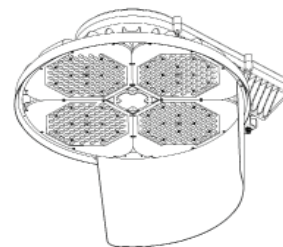

FIG. 13a
- 2 The Glare Shield can be installed as needed on the fixture to limit light trespass (Fig. 13a & 13b).